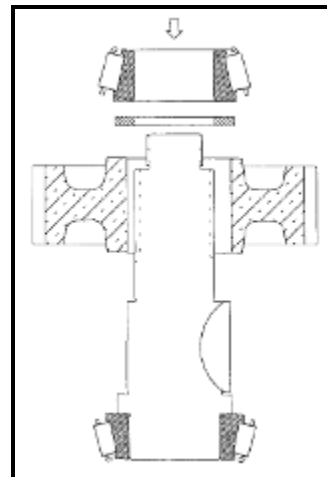

Figure 45
3. Invert the input shaft and install the heated gear, the spacer, and the heated bearing cone. See **Figure 45**.